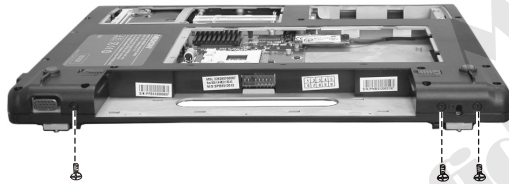

Figure 2-23 Remove the three screws
2. Remove the three screws fastening the housing. (Figure 2-23)